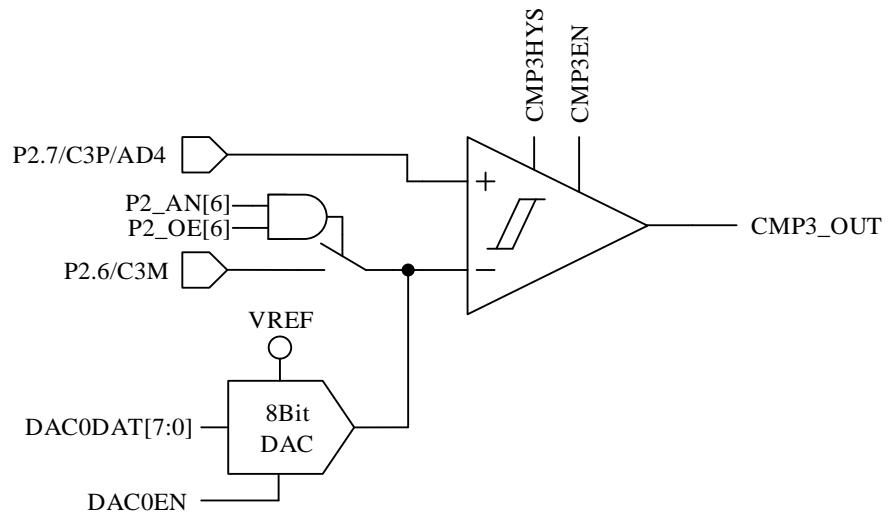
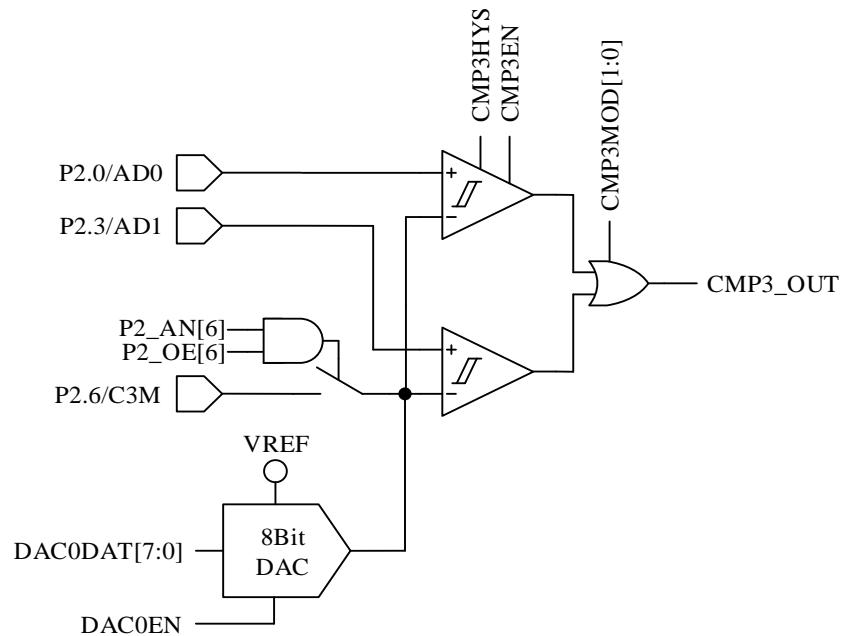
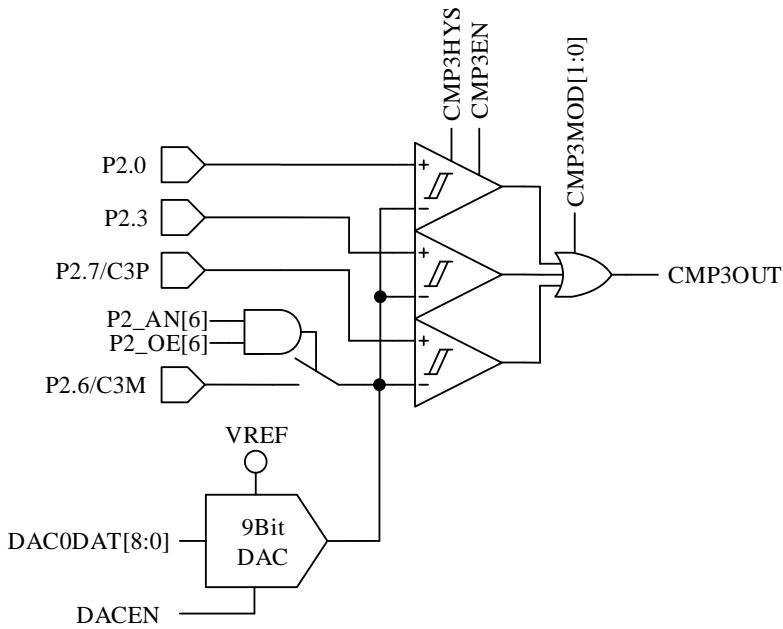

Figure 28-2 Single-comparator Input Mode
Figure 28-3 Dual-comparator Input Mode
Figure 28-4 Triple-comparator Input Mode
- When CMP_CR1[CMP3MOD] = 00, CMP3 works in single comparator input mode. The connection of input and output pins are shown in Figure 28-2.
- When CMP_CR1[CMP3MOD] = 01, CMP3 works in dual comparator input mode. The connection of input and output pins are shown in Figure 28-3.
- When CMP_CR1[CMP3MOD] = 1X, CMP3 works in triple comparator input mode. The connection of input and output pins are shown in Figure 28-4.
| [6:5] | CMP3MOD | CMP3 Mode Selection Negative input connected to P2.6 or DAC0 output 00: Single-comparator mode; P2.7 is connected to the positive input. See Figure 28-2. 01: Dual-comparator mode; P2.0 and P2.3 are connected to the positive inputs. See Figure 28-3. 1X: Triple-comparator mode; P2.0, P2.3 and P2.7 are connected to the positive inputs. See Figure 28-4. | | | | | | |